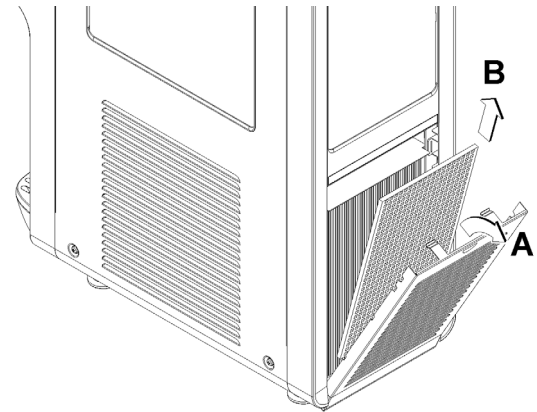

figure 34
- 4 **Once a month:** eliminate any dust that has built up on the condenser filter situated at the rear of the machine. (see figure 34)